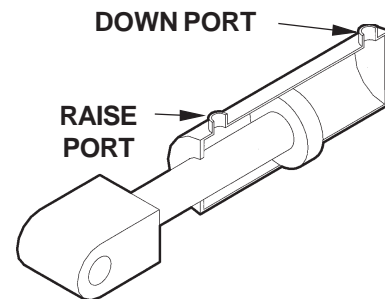

FIG. 43-1
4. Check the Hydraulic Cylinder. With the Platform on the ground, remove the Breather Plug or Vent Line from the Vent Port of the Cylinder (**FIG. 43-1**). Raise the Platform even with the bed. Allow pump motor to run two seconds more while you watch for hydraulic fluid at the Vent Port. A few drops of hydraulic fluid escaping the Vent Port is normal; however, if it streams from the Vent Port, Piston Seals are worn. Replace Seals.